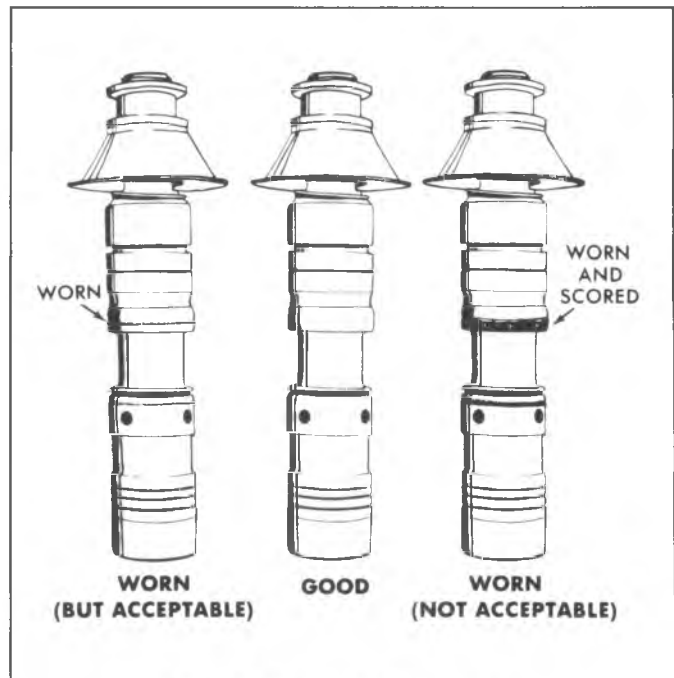

Fig. 5-4E--Spool Valve Inspection
- Remove the input rod and piston assembly, the spool assembly and spool spring from the booster housing. Compare spool valve condition to Figure 5-4E. If spool valve is defective, the complete unit must be replaced.